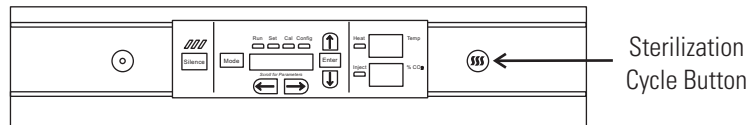

Figure 5-10. Sterilization Button Location
2. Press and hold the large green sterilization cycle button on the right side of the unit (Figure 5-10) for approximately 3 seconds until the LED lights.